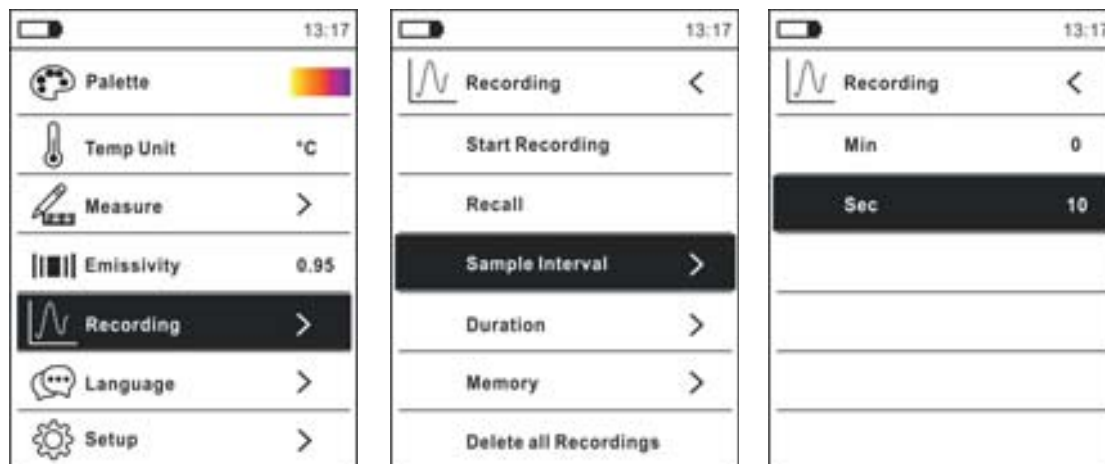

Fig. 35: Data logger function – Setting of the sampling interval
2. Press key **MENU** , select item "Recording" and press key **▶**. The screen in Fig. 35 – left side appears on the display.
3. Select item "Sample Interval" (see Fig. 35 – middle) and press key **▶** to select the sampling interval for recording. The screen in Fig. 35 – right side appears on the display.